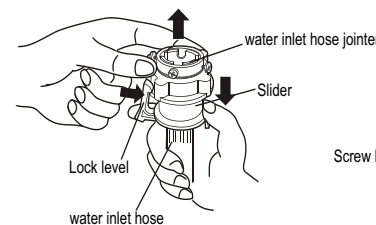

Figure 1
- 1.Press the lower end of the lock lever and push down the slider. Take off the water inlet hose jointer from the water inlet hose component. See to Figure 1.